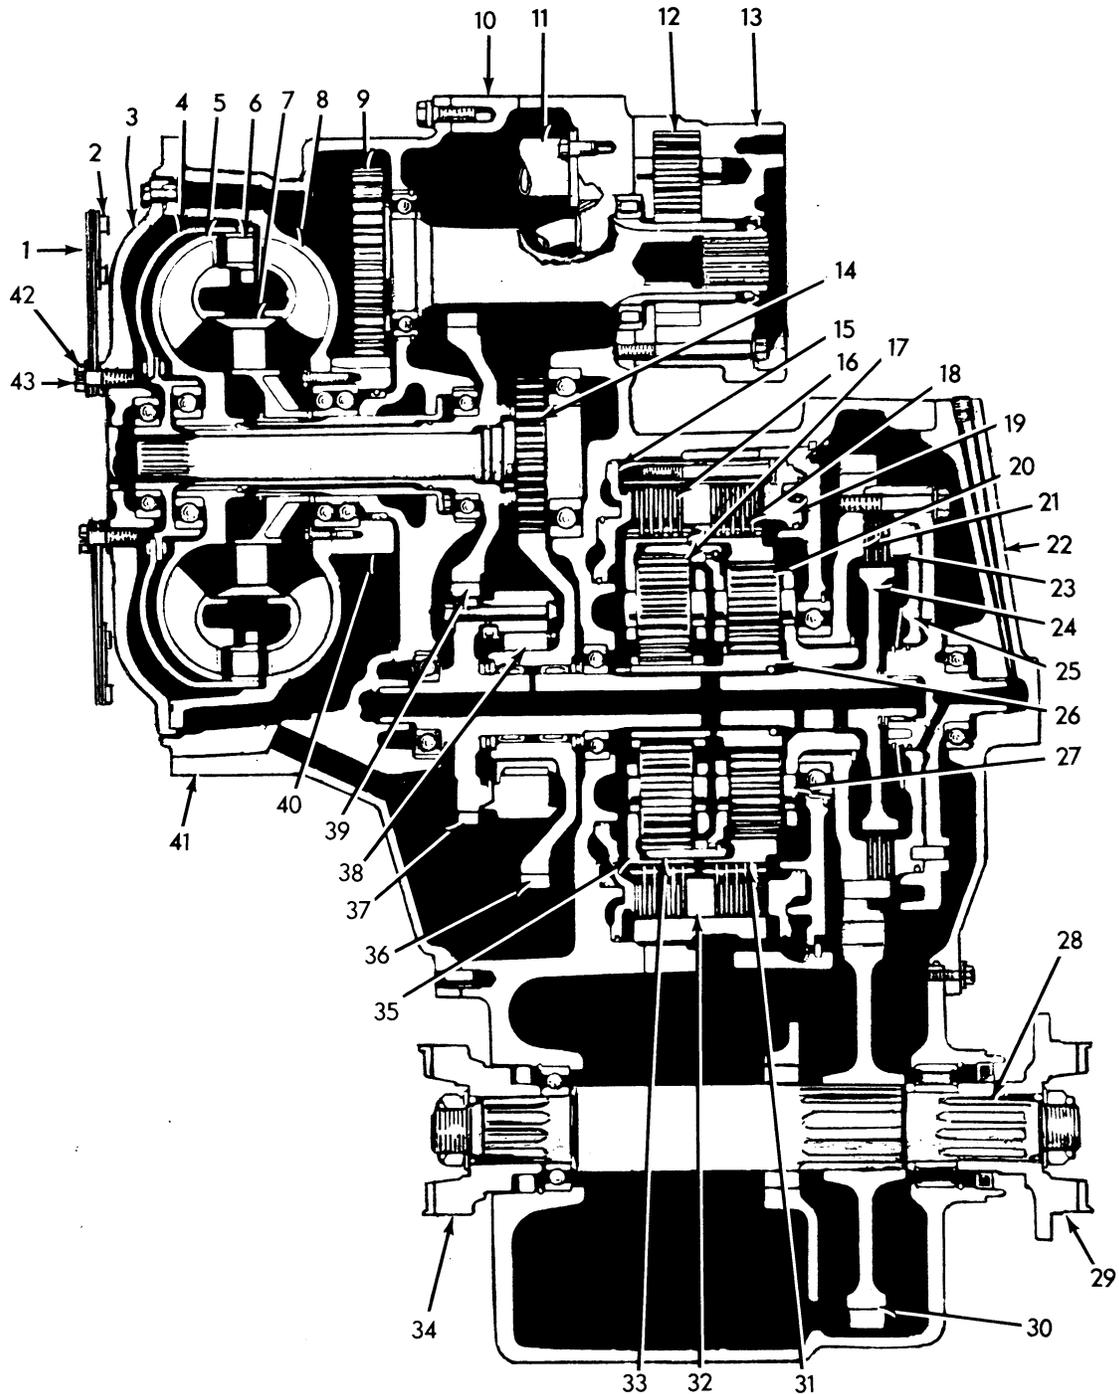

FIG. 4 MODEL TT3420-1 TRANSMISSION (cross-section)
The transmission is direct mounted. The transmission is coupled to the engine through a modified SAE 3 mounting face on the torque converter housing (41) Fig. 4, which is bolted to the engine flywheel housing. The flex-disk drive assembly (2) bolts to the engine flywheel.
Legend for Fig. 4